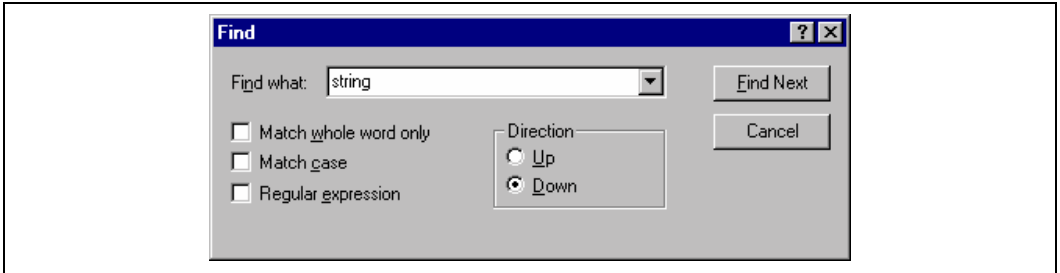

Figure 4.2: Find Dialog
3. Select **[Edit->Find...]**, press **CTRL+F**, select **[Find...]** from the editor window's local menu or click the find toolbar button (🔍). The "Find" dialog box will be displayed (figure 4.2).